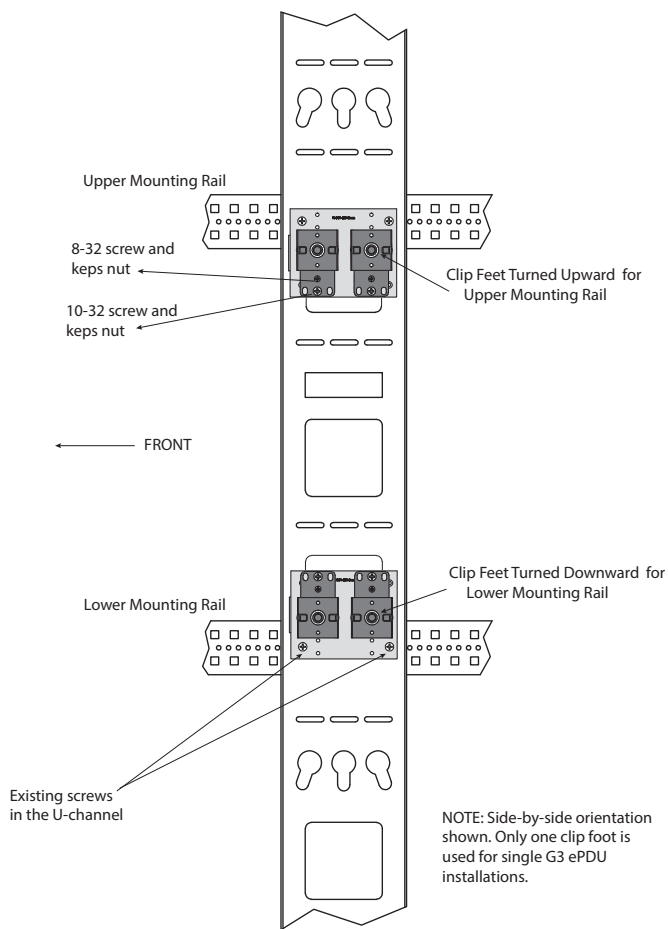

Figure 21. Single or Side-by-Side Inboard
- **One ePDU or Side-by-side inboard.** Outlets facing toward the other side of the rack, go to Figure 21 on page 24.